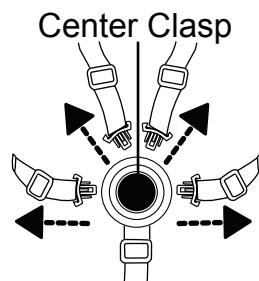

Fig. 11a
- 11) • Push Button on Center Clasp, the four Harness Buckles will pop free (Fig. 11a).